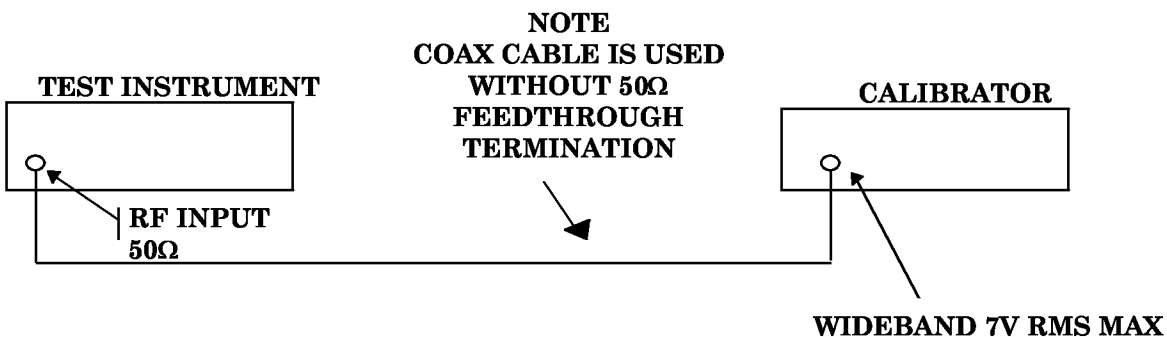

Figure 3. Input power.
(1) Connect equipment as shown in figure 3.